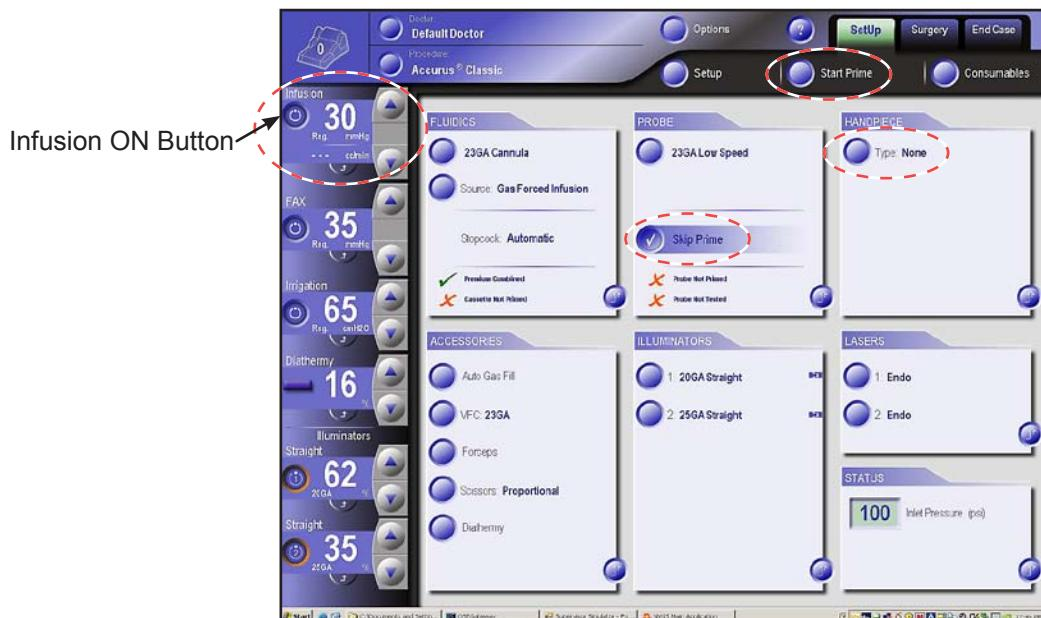

Figure 5-9 Setup Screen Selections
- PROBE “Skip Prime” (see Figure 5-9)